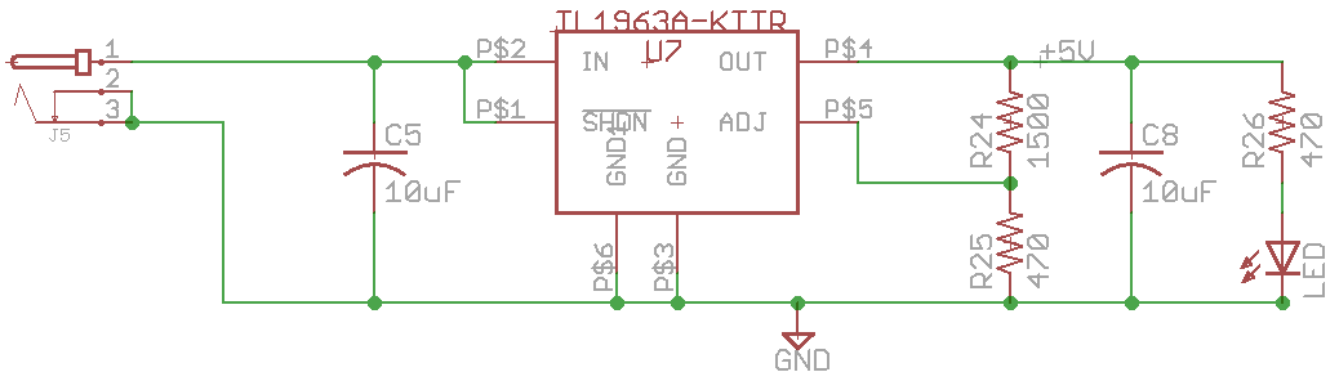

Figure 2:
- In this question you will be commanding/controlling two RC servos. Your first step will be to solder the 5V regulator to the board in order to power the RC servos. Using Figure 2 and the demonstration board found in lab as a guide, solder the 5V regulator (TL1963A-KTTR), the surface mount parts: two 10uF Capacitors, two 470ohm resistors and one 1.5Kohm resistor, a LED, and power connector to the board. All the soldering positions for these components are found on the breakout board close to the LaunchPad..